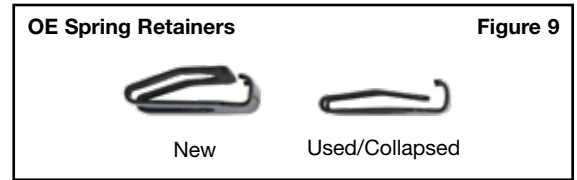

**Figure 7**
**3. Replace Main Pressure Regulator Valve (Figure 7)**